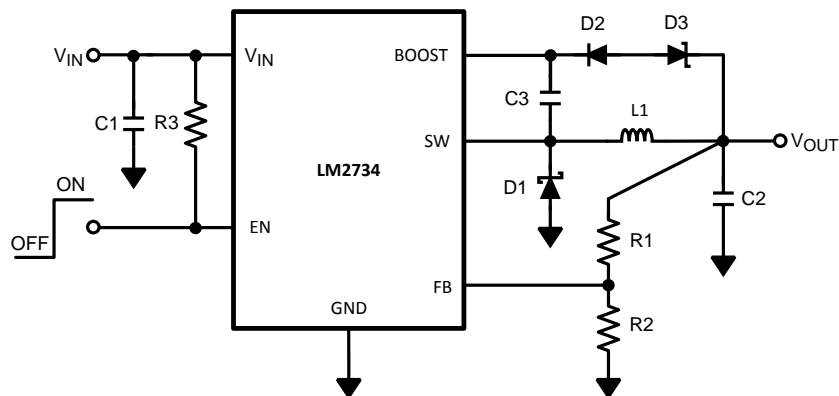

Figure 19.  $V_{BOOST}$  Derived from Series Zener Diode ( $V_{OUT}$ )
Table 11. Bill of Materials for Figure 19
**Table 11. Bill of Materials for Figure 19 (continued)**